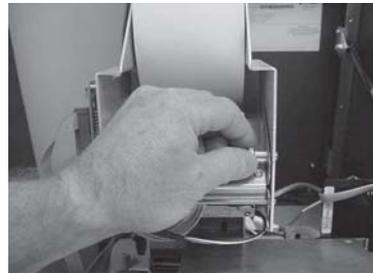
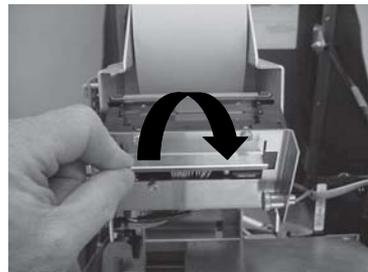

Figure 6-8. Pin location.
Figure 6-9. Cutter assembly opened.
7. If the paper is not automatically taken-up by the printer, check the tension roller lever on the printer chassis. Pull the pin located on the right side of the printer bracket above the cutter assembly (Figure 6-8). Rotate the assembly towards the front of the control panel. (Figure 6-9)